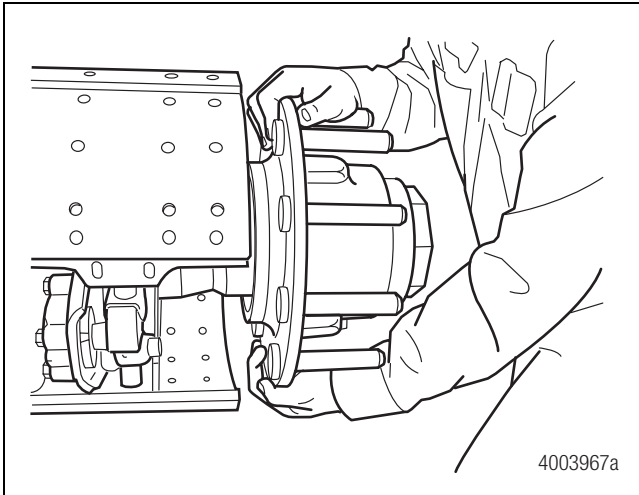

Figure 2.6
5. If the tires are not installed, push and pull on opposite sides of the hub flange and examine the wheel end for movement. Figure 2.6.